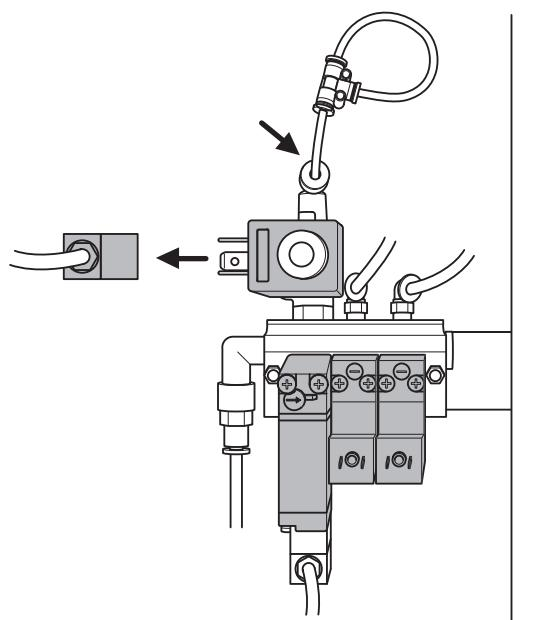

Fig. 38: Stopping the air supply behind Y13
- Stop the air supply behind the solenoid valve (Y13) as shown in Fig. 38; or pull out the electric plug.